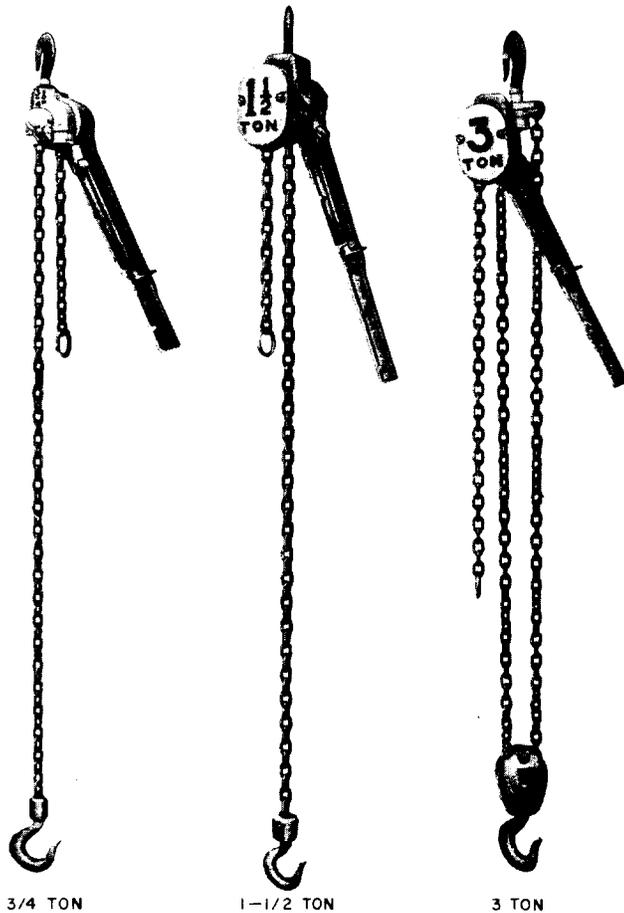

Fig. 1 — B Chain Hoists
2.01 The three capacities of B Chain Hoists are shown in Fig. 1. They are similar in design and construction, except the gear reduction assembly is omitted on the 3/4-ton hoist, and the chain of the 3-ton hoist is double-reeved